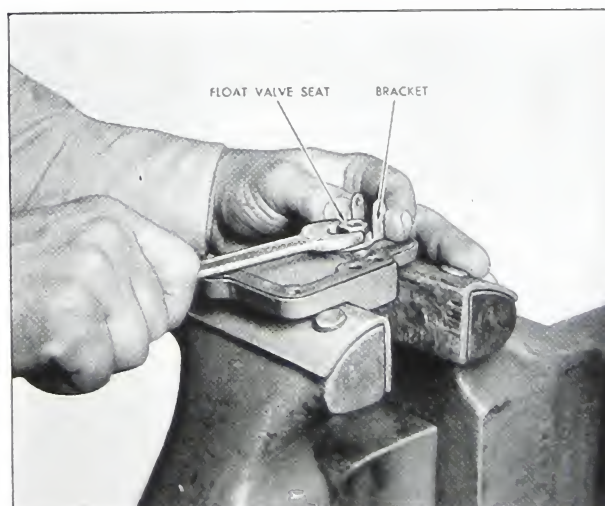

Fig. 5-97. Installing float valve seat
5. Install the float valve seat with a new gasket and tighten securely. Fig. 5-97.